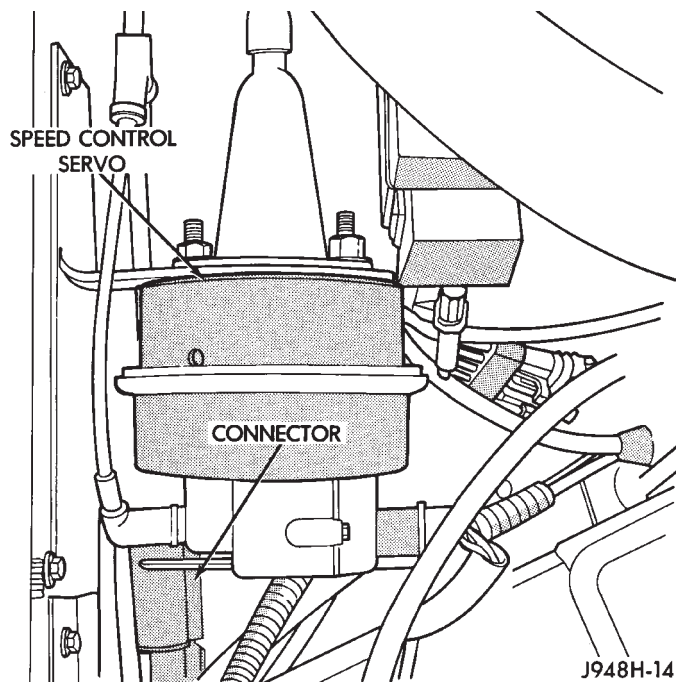

Fig. 1 Speed Control Servo—Left Hand Drive
- (1) Disconnect vacuum hose at servo (Figs. 1 and 2).
- (2) Disconnect electrical connector at servo.
- (3) Remove 2 nuts from cable sleeve.
- (4) Pull speed control cable away from servo to expose cable retaining clip.
- (5) Remove clip attaching cable to servo.
- (6) Pull servo away from mounting bracket.